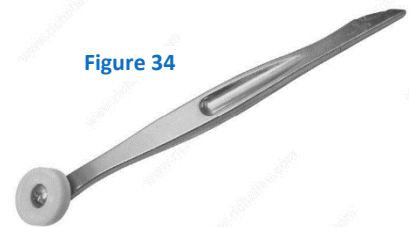

Figure 34
- 3. Insertion of exterior gasket should be somewhat stiff and the use of a vinyl gasket installation roller/tool may be necessary (Figure 34). Always work from the center out to the ends during gasket installation.